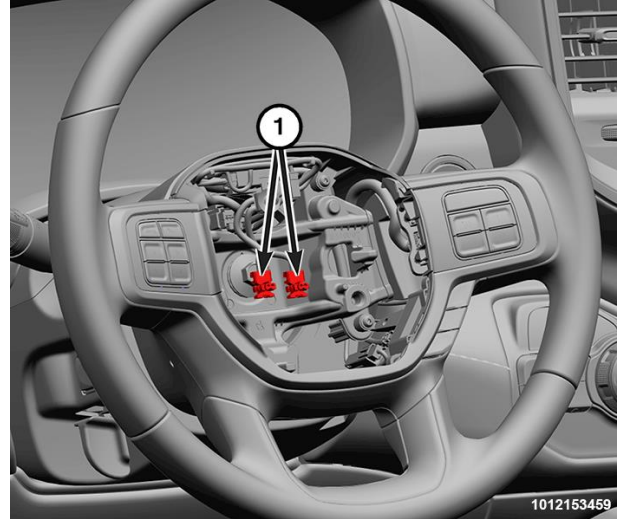

Figure 21 – Steering Wheel Wire Harness Connectors
11. Pull the DAB away from the steering wheel far enough to access the steering wheel wire harness connector to the DAB inflator initiators (1) (Figure 21).
12. The clockspring DAB pigtail wire connector insulators are secured by integral latches and a Connector Position Assurance (CPA) lock to the airbag tether cutter and inflator connector receptacles, which are located on the back of the floating horn switch plate and the DAB housing. Pull the lock straight away from the connector insulator, then pull the insulators straight away from the connector receptacles to disengage and disconnect them (Figure 21).
13. Connect the two steering wheel wire harness connectors (Figure 21).
14. Position the DAB close enough to the steering wheel to connect the steering wheel wire harness connectors to the DAB inflator initiators (1) (Figures 21 and 22).